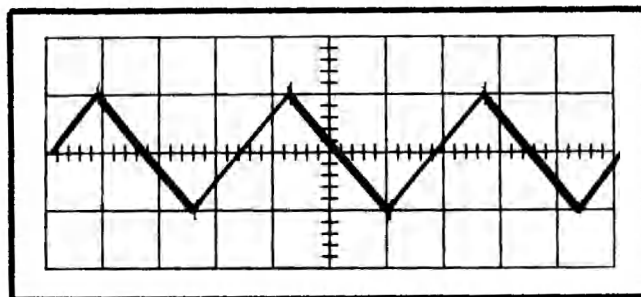

Fig. 7-4. Waveform discussed in step 20-a. Integrated 400-kc (approx.) square wave from a Tektronix Type 107 Square-Wave Generator.
a. Set the Type 107 APPROXIMATE FREQUENCY control fully counterclockwise. Turn the APPROXIMATE AMPLITUDE control fully clockwise. There should now be about a 2-cm display of an integrated square wave, as illustrated in Fig. 7-4. Set the Type 107 APPROXIMATE AMPLITUDE control and/or the O Unit VARIABLE control for 2 cm of deflection, disregarding overshoot. (If you cannot obtain 2 cm of display, replace the Type 107 output 6AU6 tube with a 6AK5.)